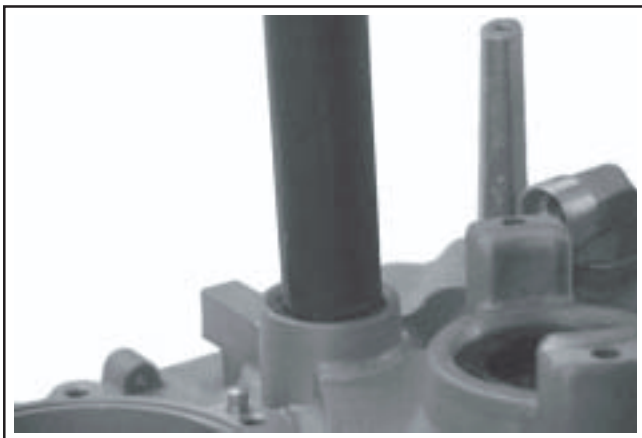

Figure 11-2. Installing Camshaft Seal.
5. Install the camshaft oil seal to a depth of **1.0-1.5 mm (0.039-0.059 in.)** below the top of the seal bore. See Figure 11-2. Do not bottom the seal in the bore or the oil passage may be obstructed.